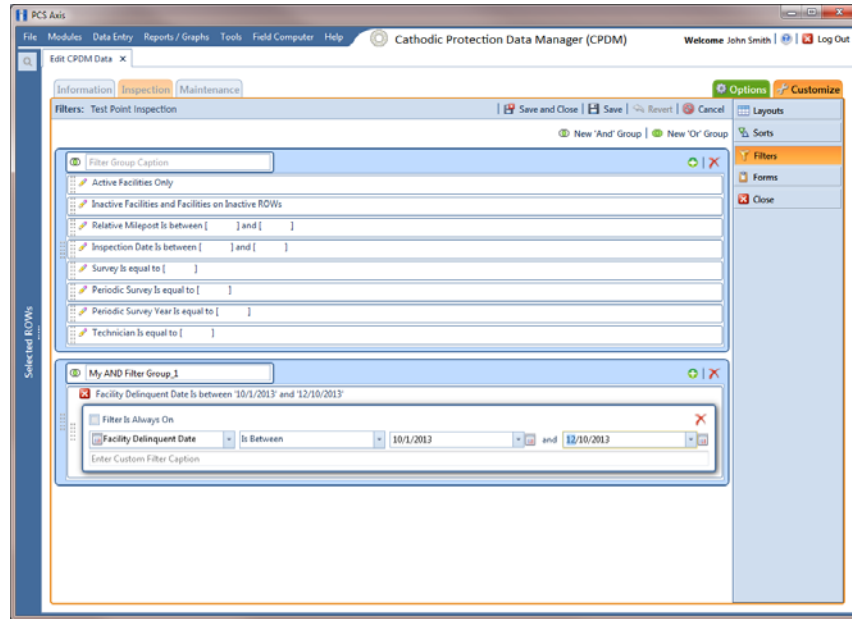

Figure 7-90. Filters
- 5 Click  **New 'And' Group** to open a filter properties group box (Figure 7-90, page 304).
- 8 If the AND filter group includes a date filter, such as *Facility Delinquent Date Is Between* shown in Figure 7-90, set a date range using a calendar or dynamic dates in the following manner: